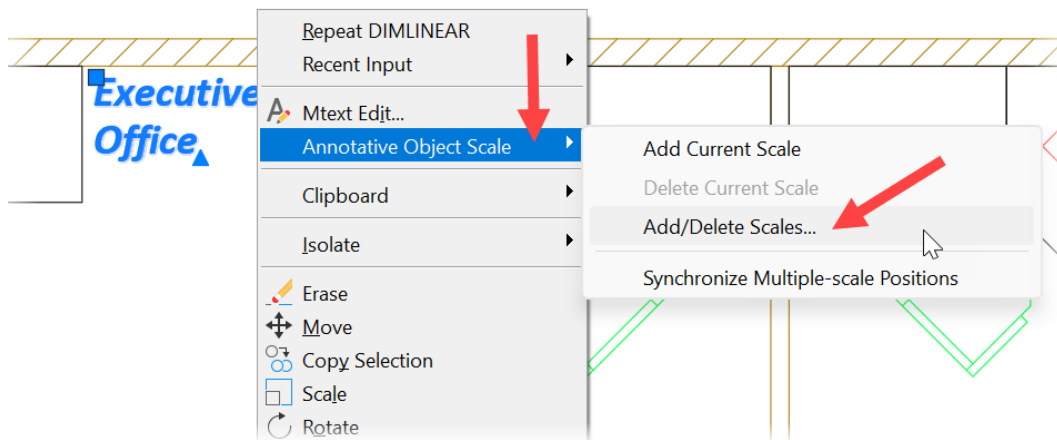

Figure 8.29: The shortcut menu with Annotative Object Scale - Add/Delete Scales... displayed
3. Select the annotative multiline text with a click. You will see the blue grips appear. Right-click to display the context-sensitive shortcut menu, as shown in *Figure 8.29*: